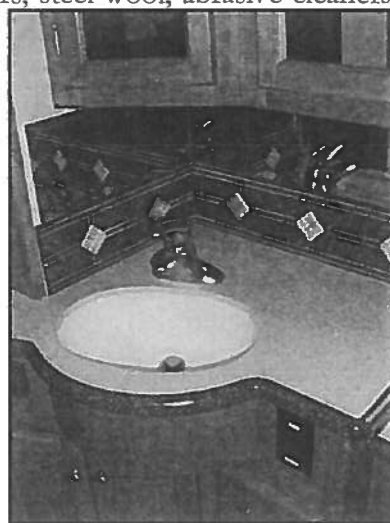

Figure 14-12. Bedroom Sink Cabinetry
The wood cabinetry (Figure 14-12) should be cared for with furniture polish to sustain the natural beauty and luster of the wood. This procedure will also keep the cabinetry looking new, prevent the wood from drying, and reduce chances of accidental staining or aging.
3. Disconnect the inlet connection to the water pump [in the sanitation compartment under the motor home, see Figure 14-12]. Attach the supplied, vinyl hose (via the plastic coupling on the hose) to the inlet connection and hand-tighten that connection; do not over-tighten.